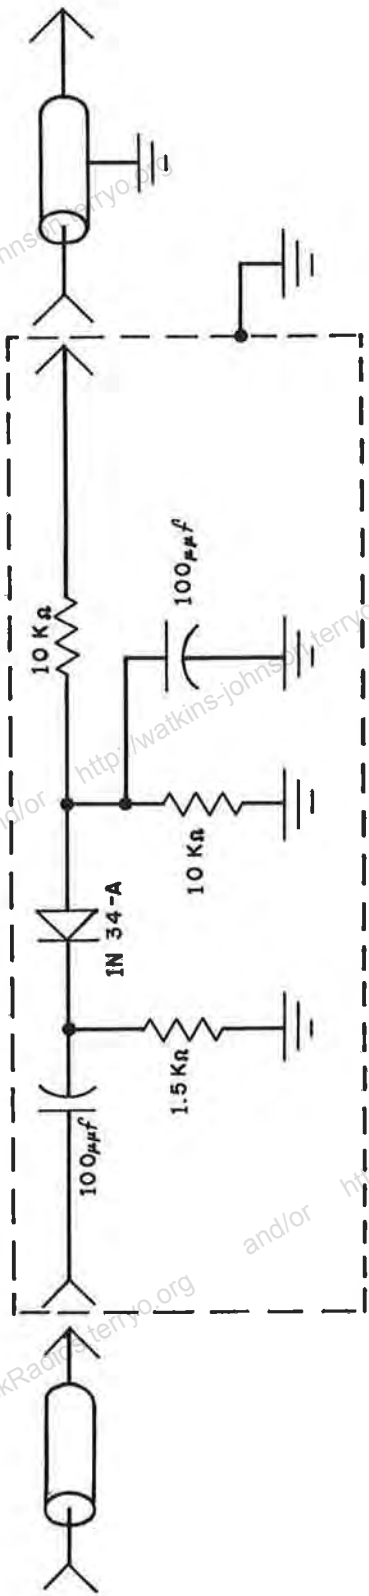

Figure 5-1. Block Diagram and Detector Schematic for Local Oscillator Adjustment
- (1) Connect the test equipment as shown in Figure 5-1.
- (2) Set the UHF signal generator to 960 mc (if a VHF signal generator is used, set it at 480 mc for 2nd harmonic use, or 320 mc if the third harmonic is to be used). The signal generator should be calibrated for high accuracy.
- (3) Turn the tuning knob until the tuner rotor blades are in full mesh with the stator blades. Set the dial exactly on the 900 megacycle mark.
- (4) Turn the knob a small amount in the counterclockwise direction, (any rotation in the clockwise direction would invalidate step 3.)
- (5) Turn the knob in the counter-clockwise direction until it reaches the 900 megacycle mark. Set the high-end mechanical stop about 5 degrees above the 900 megacycle mark.
- (6) Using a nonmetallic insulated screwdriver, adjust the trimmer capacitor, C-126, to produce zero beat as indicated on the oscilloscope. Limit signal generator output to just enough to produce zero beat. A large signal generator output may cause the local oscillator to "pull" and may damage the mixer crystal. As a starting point, vary the frequency of the signal generator to determine initial oscillator frequency.
- (7) Set the UHF signal generator to 535 mc (if a VHF signal generator is used, set to 267.5 mc for second harmonic use). Again calibrate the signal generator for high frequency accuracy.
- (8) Set the dial of REU-300 at 475 mc. Use a nonmetallic